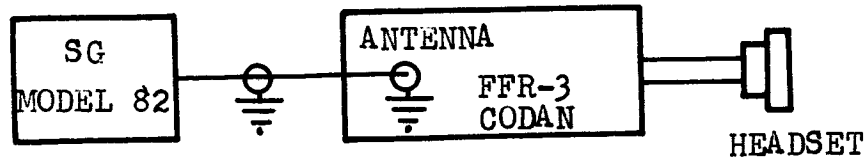

FIGURE 1
- 2.) Arrange test set up according to Figure 1.